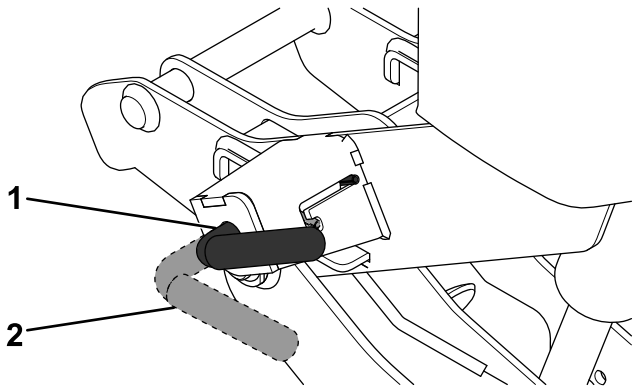

Figure 17
2. While putting upward pressure on the coupler handle, turn the levers on the couplers to the UNLOCK position (Figure 17).